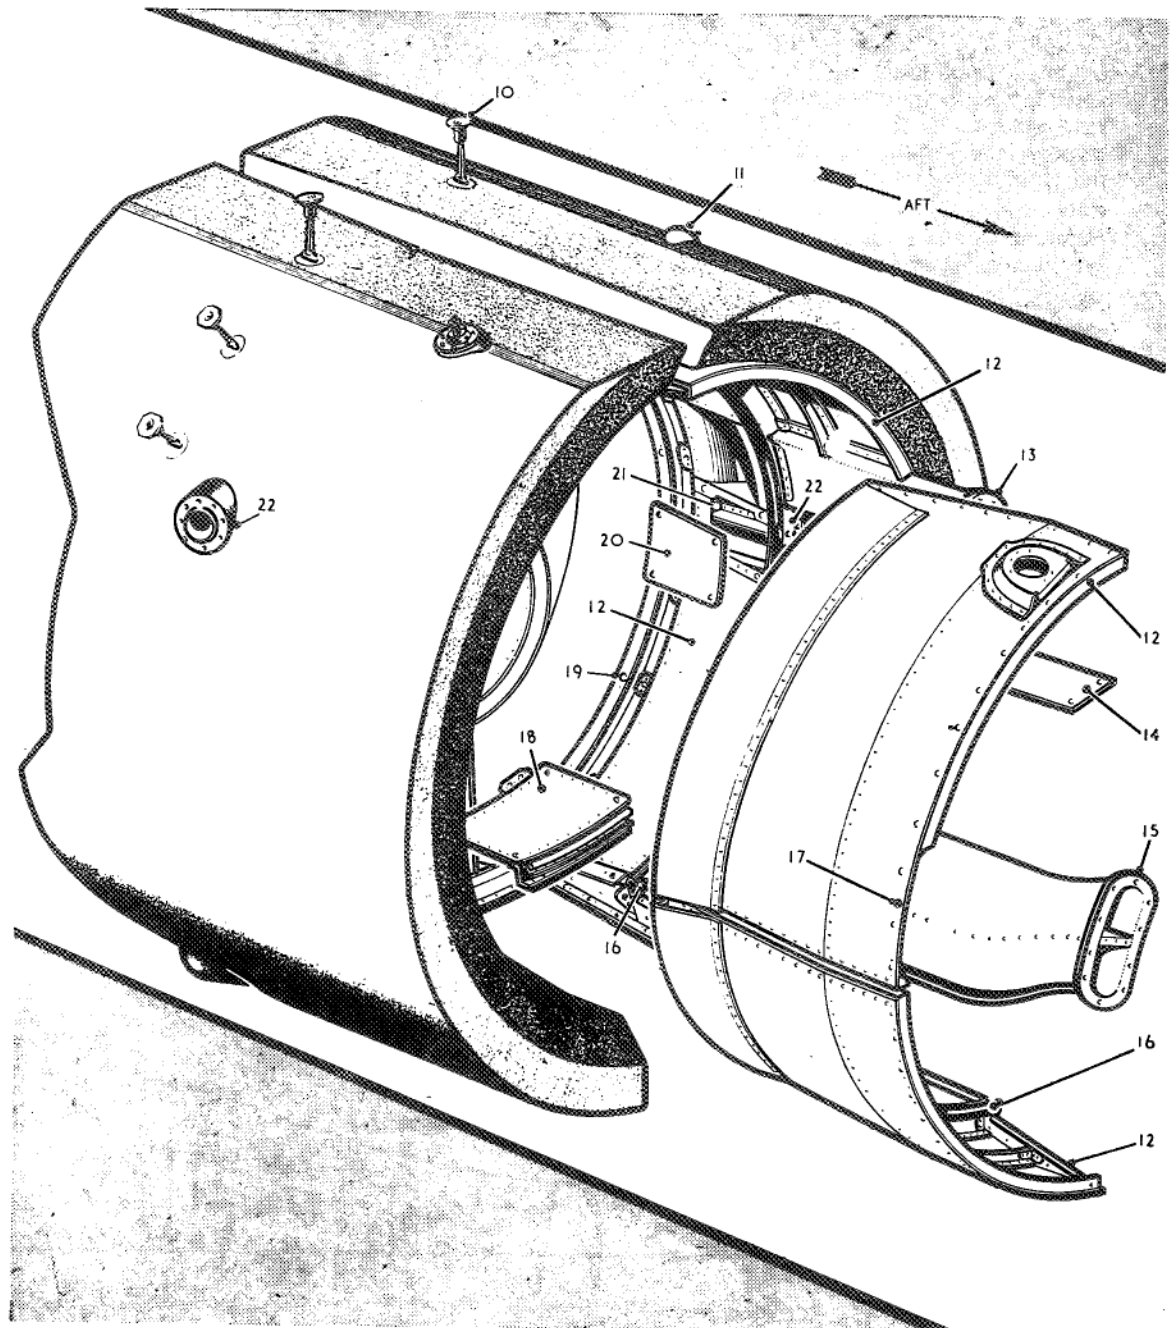

Fig. 13. Removal of centre fuel tanks (2)
Removal of suction relief valve (fig. 13)
*Dismantling pressurization duct (fig. 13)*
**46.** Disconnect the pressurizing duct (15) between frames 33 and 34 or, in the case of the starboard pressurizing duct (13), between frames 32 and 34, removing ten nuts and bolts in either case.
- (1) Remove the eight nuts (9) from the studs securing the blanking plate and remove the plate and sealing washer.
- (2) Remove the two screws securing the tank to the panel and ease the eight studs carefully through the holes in the tank support panel, taking with them the sealing ring and at the same time avoiding damage to the tank skin.
*Removal of centre tank support panels (fig. 13)*
- (1) Remove the sealing strips (19) at the forward end of the tank support panels by releasing the 21 Dzus fasteners.
- (2) Remove the two access doors (20), the top access door (14), the rubber sealing (16) and the bottom access door (18).
- (3) Unscrew the bolt which passes through the pressurizing duct (17).
- (4) Unscrew the four bolts at the front joint plate (21) and remove the plate. Unscrew the ten bolts at the rear joint plate (22) and remove the plate. Unscrew the two nuts at the top joint plate and remove the plate.
- (5) Remove the main tank bay support panels. If desired, these may be removed in four pieces by removing the bolts along the panel joint situated below the pressurizing duct.
*Removal of tank retaining cords and tank (fig. 13)*
- (1) Remove the screws from the six tank retaining nuts (10, fig. 13).
- (2) Obtain about 40 yards of 8oz. kite cord (Stores Ref. 32A/107) and thread the cord through the six nuts into the tank bay and back through the top tank assembly hole in the structure at the rear spar and pass the cord through the buttons on the tank.